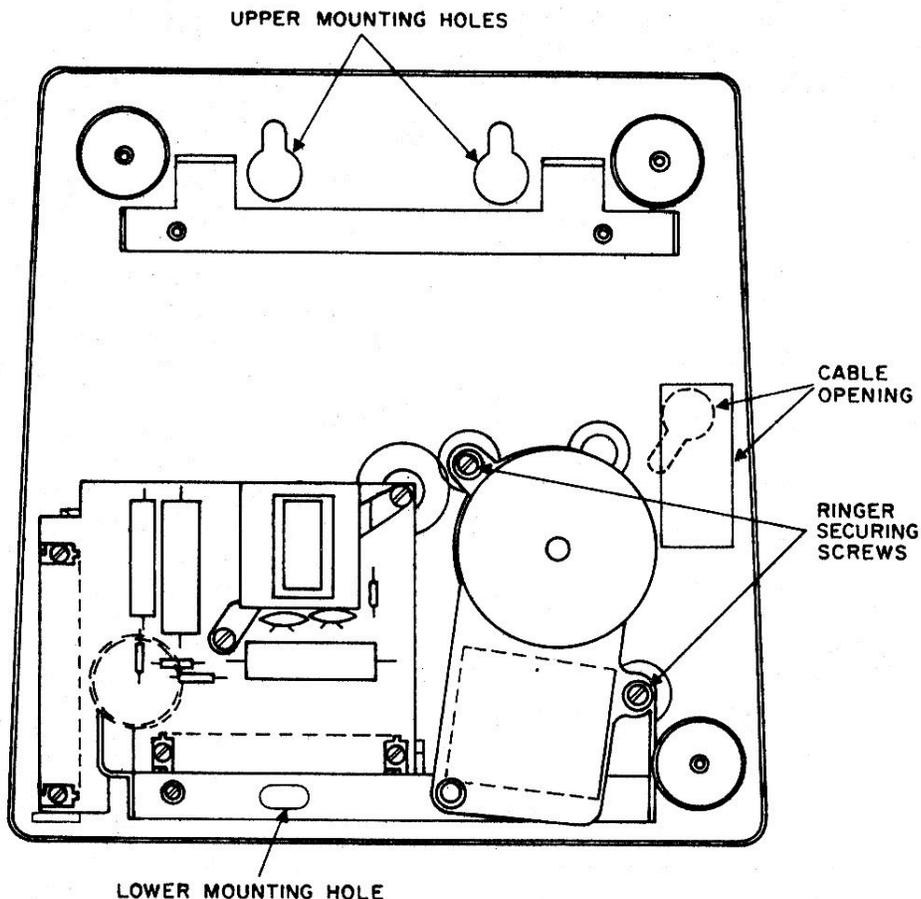

Figure 17. Wall Mounting Hole Location and Ringer Mounting Details.
- (1) Remove the telephone set housing as instructed in Paragraph 7.08.
- (2) Hold the telephone set in its final position against the wall, and mark the locations of the upper and lower mounting holes (Figure 17).
- (3) If the material of the wall permits the use of wood screws, drill starting holes for No. 10 screws at the mounting hole locations marked in step 2. If screw anchors are required, drill the necessary holes and install them at the mounting hole locations. Use anchors of the proper size to accommodate No. 10 wood screws.
- (4) Install a 5/8-inch-long No. 10 wood screw at each of the upper mounting hole locations. Run them down to within one-fourth inch of tight.
- (5) Hang the telephone set on the two upper mounting screws, and position it squarely on the wall. Install a 5/8-inch-long No. 10 wood screw in the lower mounting hole. Tighten all three mounting screws.
- (6) If the 16-conductor line cord is used, disconnect the line cord conductors from the two connecting blocks and follow steps 7, 8, and 9.
- (7) Route the line cord along the surface of the wall to the desired location of the connecting blocks. Attach it to the wall with fasteners appropriate for the type of surface.
- (8) Mount the two connecting blocks on the wall as follows:
- (2) Remove the material from the cable opening in the telephone set base (Figure 17).
- (3) If the line cord is of the 16-conductor type, disconnect and remove it from the telephone set. If it is of the 24-conductor type, leave it connected.
- (4) Perform the operations of Paragraph 3.02, step 13, as applicable.
- (5) Hold the telephone set in its final position against the wall, and mark the location of the upper and lower mounting holes and cable opening (Figure 17).
- (6) In the wall at the cable opening location, drill a hole of adequate size to permit pulling in the inside wiring or running cable.
- (7) If the material of the wall permits the use of wood screws, drill starting holes for No. 10 screws at the mounting hole locations marked in step 4. If screw anchors are required, drill the necessary holes and install them at the mounting hole locations. Use anchors of the proper size and type to accommodate No. 10 wood screws.
- (8) Install a 5/8-inch-long No. 10 wood screw at each of the upper mounting hole locations. Run them down to within one-fourth inch of tight.
- (9) Bring in the inside wiring cable or running cable through the hole drilled in step 5. Leave about 1 foot of cable extending from the hole. If the line cord is plug-ended, proceed to step 13.
- (10) Pass the free end of the cable through the cable opening in the telephone set base from the back, hang the telephone set on the two upper mounting screws, and position it squarely on the wall. Install a 5/8-inch-long No. 10 wood screw in the lower mounting hole. Tighten all three mounting screws.
- (11) Remove the jacket from the exposed end of the cable (step 9), leaving approximately 2 inches of the jacketed cable extending from the wall. Strip the ends of the conductors for screw connections.